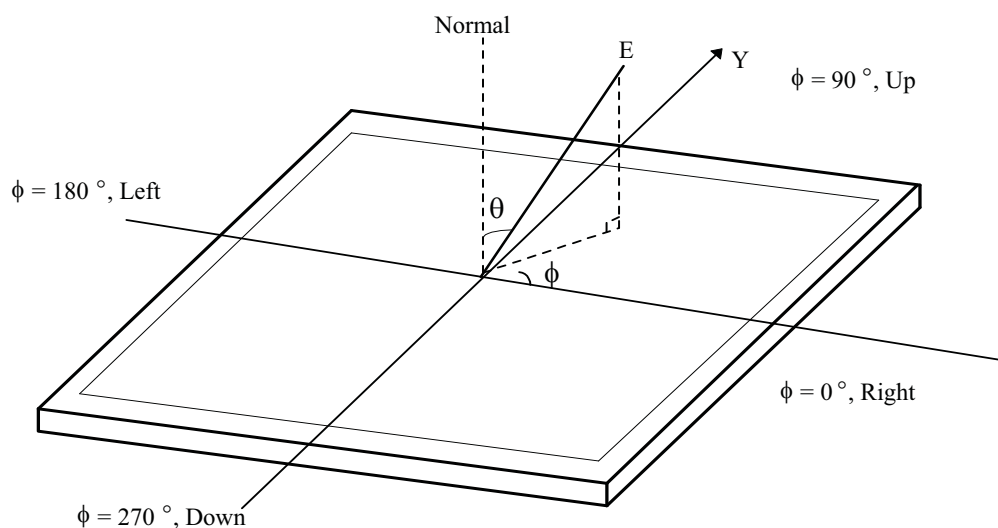

FIG. 12 Viewing Angle
6. Viewing angle is the angle at which the contrast ratio is greater than 10. The angles are determined for the horizontal or x axis and the vertical or y axis with respect to the z axis which is normal to the LCD module surface. For more information, see the FIG. 12.